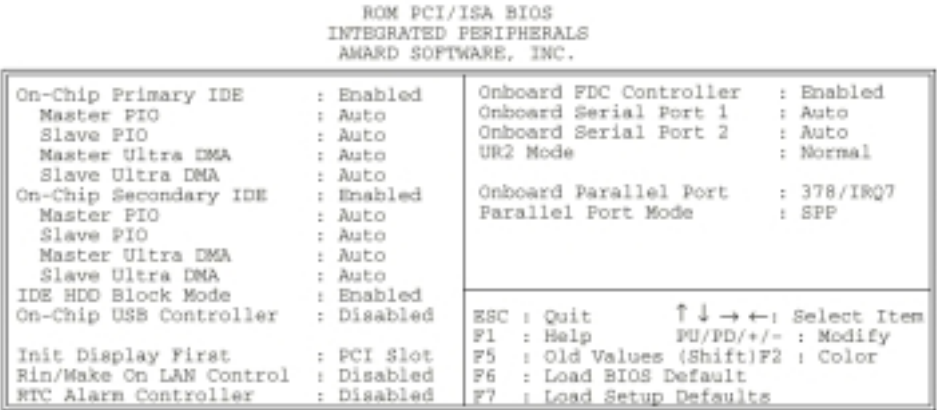

Figure 3-7. Integrated Peripherals Setup Screen
- 1. Choose “INTEGRATED PERIPHERALS SETUP”from the Main Menu, and a screen depicted in Figure 3-7 will appear.
A short description of screen options (Figure 3-7) follows: